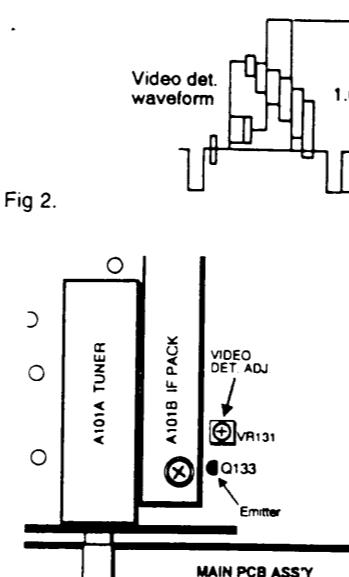

Fig 2.
- 3: Adjust VR131 for 0.1Vp-p as shown in fig. 2.